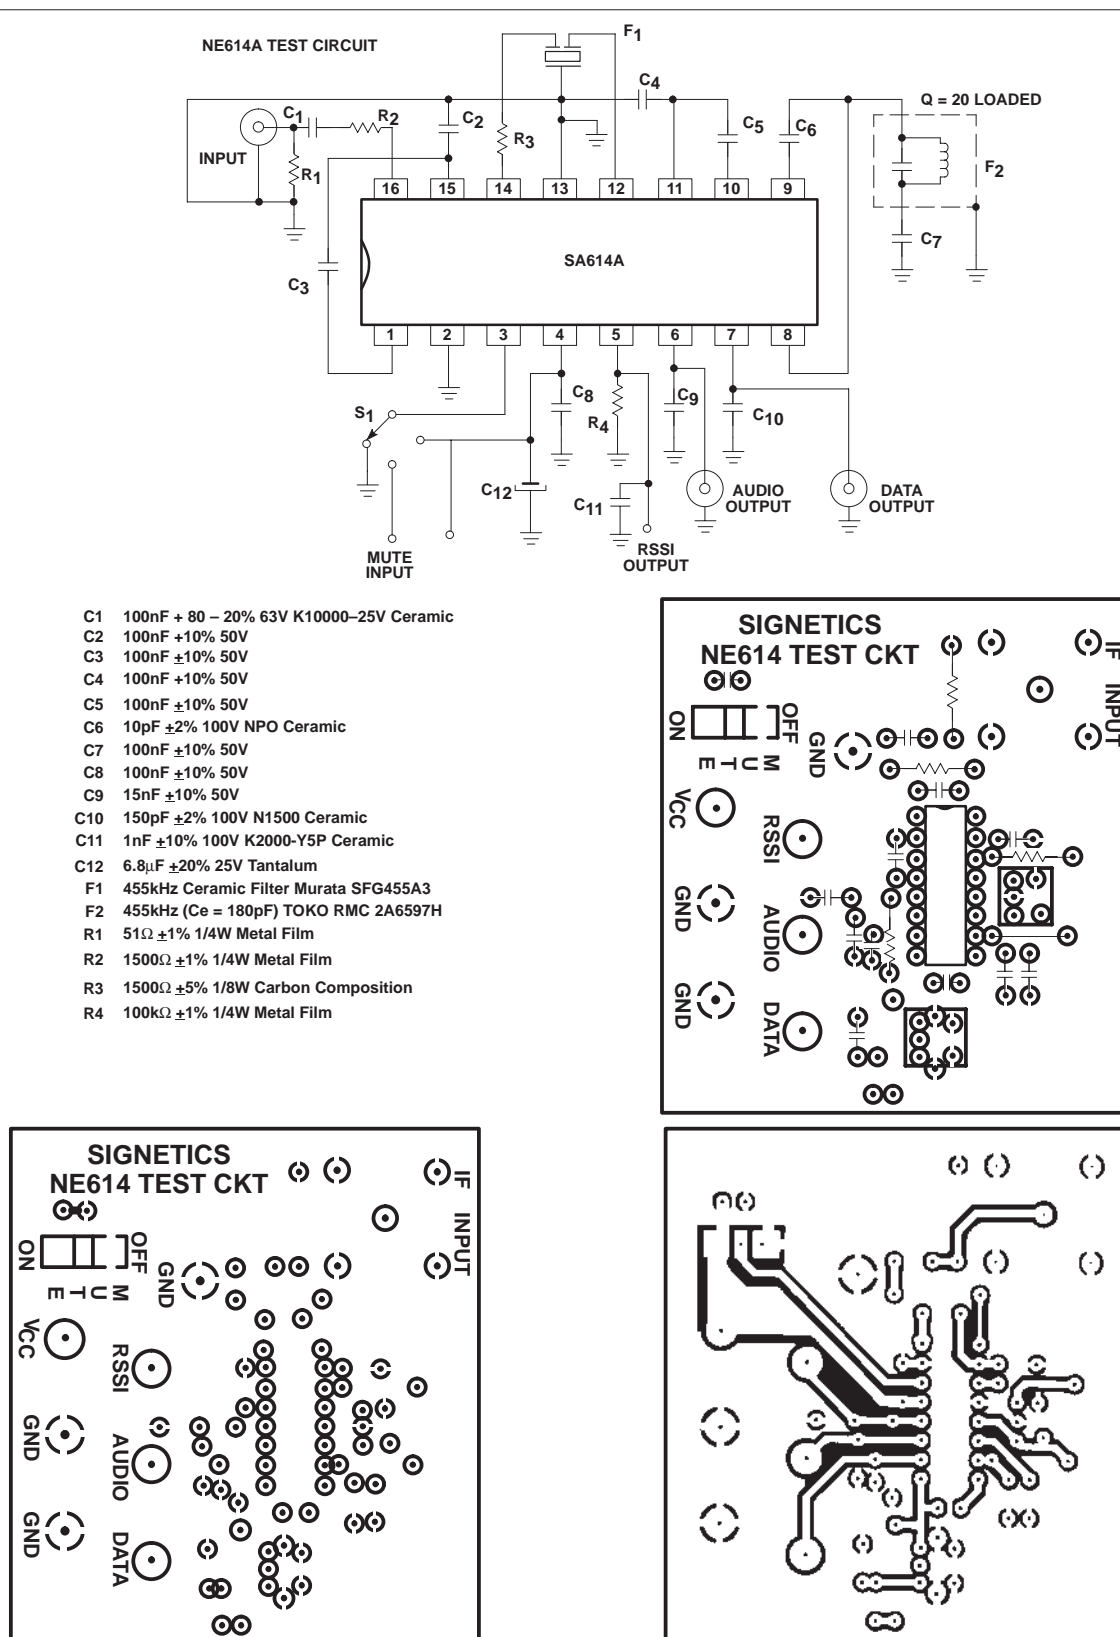
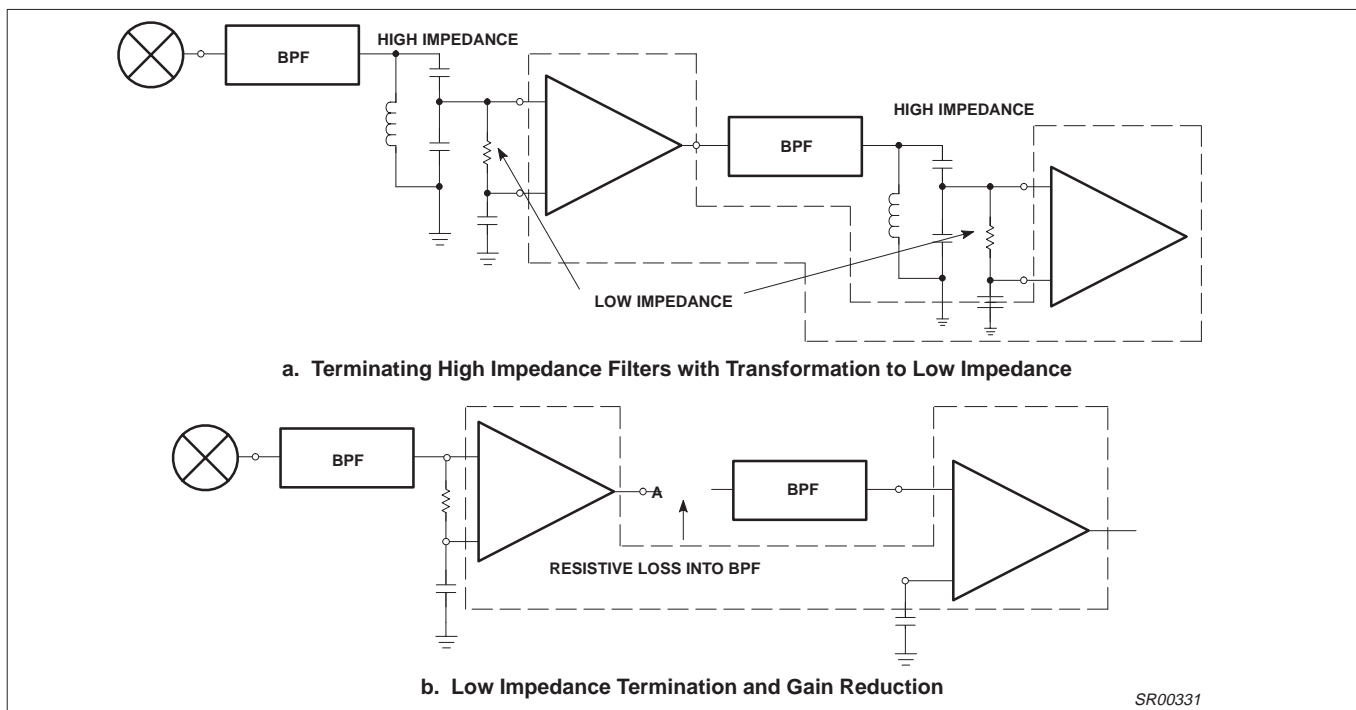

Figure 3. SA614A Test Circuit
Figure 9. Practical Termination
Typical reading at $T_A = 25^\circ\text{C}$; $V_{CC} = \pm 6\text{V}$, unless otherwise stated. IF frequency = 455kHz; IF level = -47dBm; FM modulation = 1kHz with $\pm 8\text{kHz}$ peak deviation. Audio output with C-message weighted filter and de-emphasis capacitor. Test circuit Figure 3. The parameters listed below are tested using automatic test equipment to assure consistent electrical characteristics. The limits do not represent the ultimate performance limits of the device. Use of an optimized RF layout will improve many of the listed parameters.
The SA614A is a very high gain, high frequency device. Correct operation is not possible if good RF layout and gain stage practices are not used. The SA614A cannot be evaluated independent of circuit, components, and board layout. A physical layout which correlates to the electrical limits is shown in Figure 3. This configuration can be used as the basis for production layout.
There are three primary ways to deal with regeneration: (1) Minimize the feedback by gain stage isolation, (2) lower the stage input impedances, thus increasing the feedback attenuation factor, and (3) reduce the gain. Gain reduction can effectively be accomplished by adding attenuation between stages. This can also lower the input impedance if well planned. Examples of impedance/gain adjustment are shown in Figure 9. Reduced gain will result in reduced limiting sensitivity.
The high gain and bandwidth of the SA614A in combination with its very low currents permit circuit implementation with superior performance. However, stability must be maintained and, to do that, every possible feedback mechanism must be addressed. These mechanisms are: 1) Supply lines and ground, 2) stray layout inductances and capacitances, 3) radiated fields, and 4) phase shift. As the system IF increases, so must the attention to fields and strays. However, ground and supply loops cannot be overlooked, especially at lower frequencies. Even at 455kHz, using the test layout in Figure 3, instability will occur if the supply line is not decoupled with two high quality RF capacitors, a 0.1μF monolithic right at the V_{CC} pin, and a 6.8μF tantalum on the supply line. An electrolytic is not an adequate substitute. At 10.7MHz, a 1μF tantalum has proven acceptable with this layout. Every layout must be evaluated on its own merit, but don't underestimate the importance of good supply bypass.
At 455kHz, if the layout of Figure 3 or one substantially similar is used, it is possible to directly connect ceramic filters to the input and between limiter stages with no special consideration. At frequencies above 2MHz, some input impedance reduction is usually necessary. Figure 9 demonstrates a practical means.